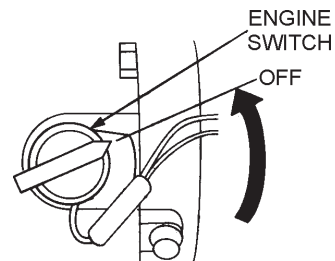

Figure 17. Engine ON/OFF Switch (OFF)
2. After the engine **cools**, turn the engine ON/OFF switch to the **"OFF"** position (Figure 17).